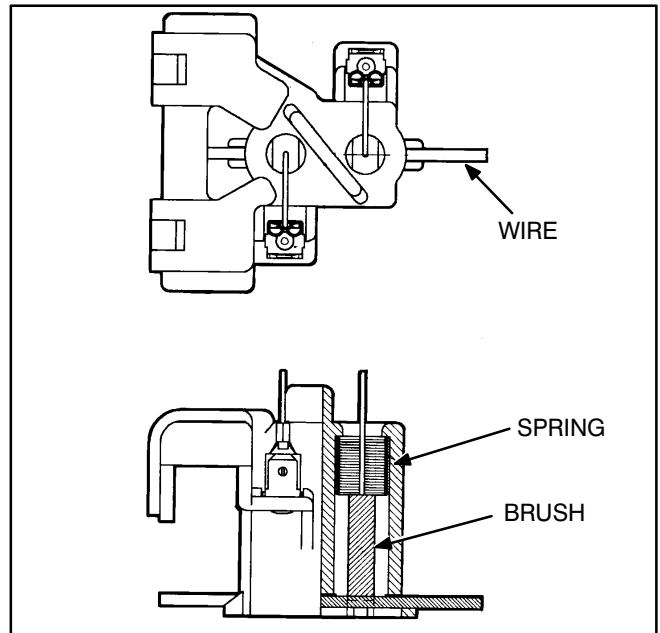

FIGURE 7-6. BRUSH REPLACEMENT
2. Remove the brushes and springs from the holder and replace with new parts (Figure 7-6).